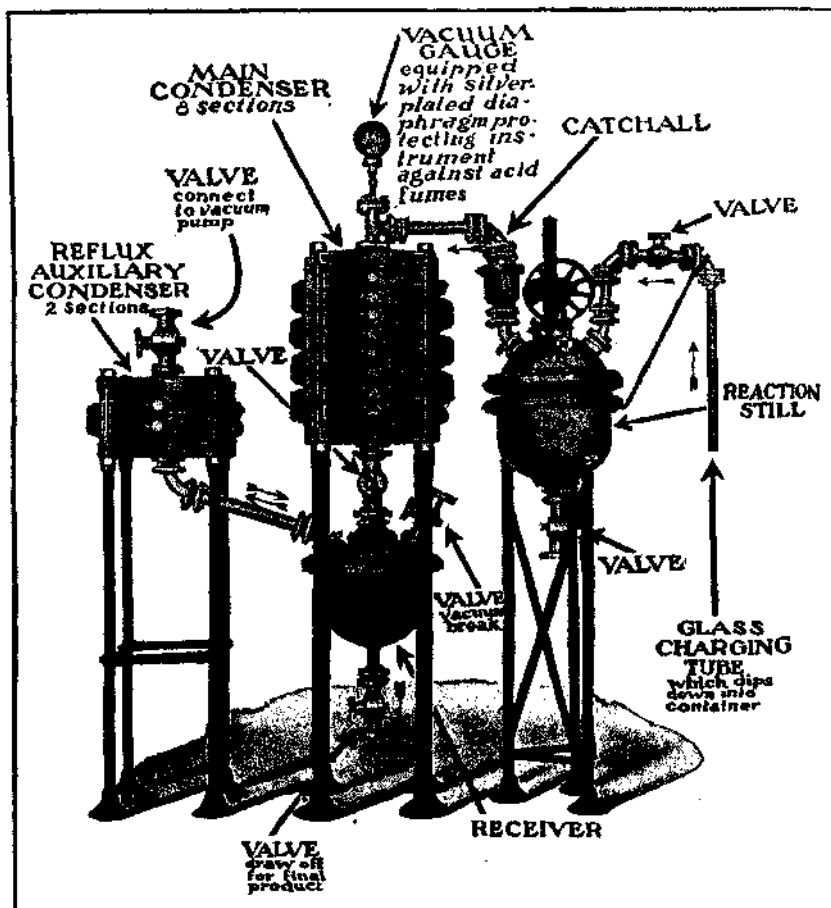

FIG. 75.—Vacuum Distillation.
14. From a study of the parts of the apparatus shown in Figs. 74A and 74B, indicate the corresponding parts of Fig. 75.